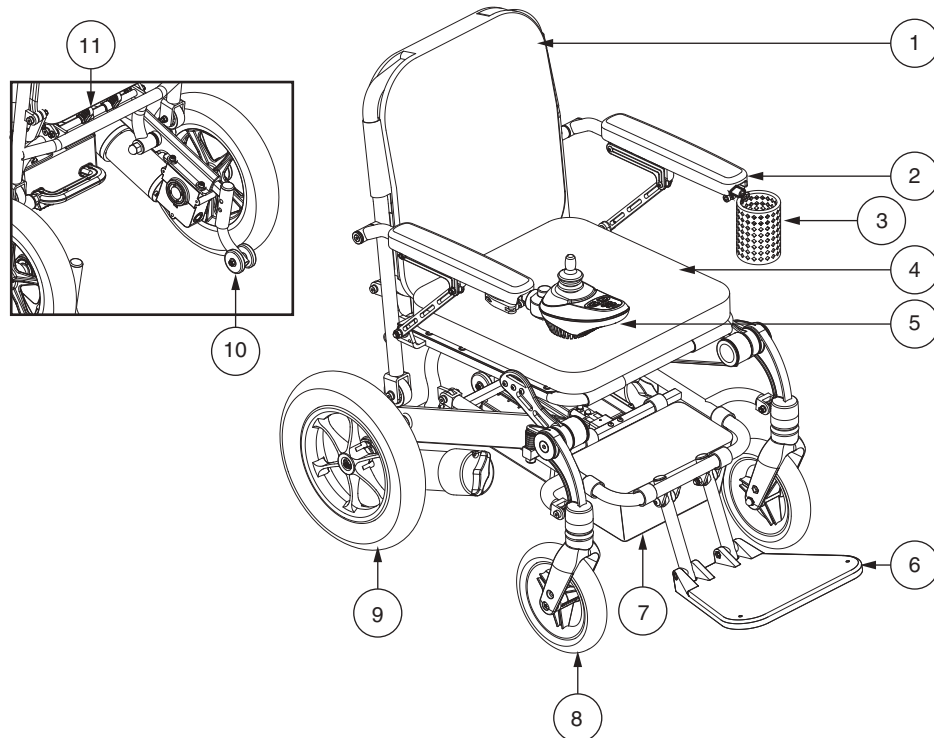

Figure 1. The Jazzy Passport
The Jazzy Passport is a power chair that you can easily fold for transportation or storage. The battery box slides into the rear of the power base. **See figures 1 and 2** for power chair components.
2. Standing at the rear of the chair, locate the locking mechanism. **See figure 1.**
1. Standing at the rear of the chair, locate the locking mechanism. **See figure 1.**